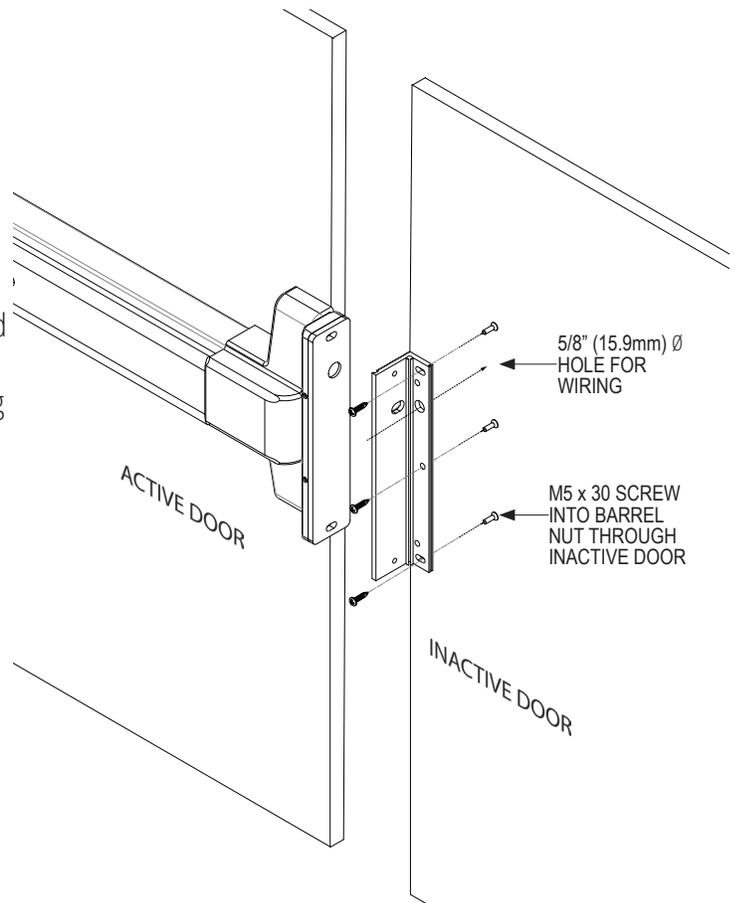

Figure 4.8 Mounting
**Drill the Holes for Wiring and Mounting: (Figure 4.8)**
**Install the CX-RIM-SB Mounting Plate: (Figure 4.8 & 4.9)**